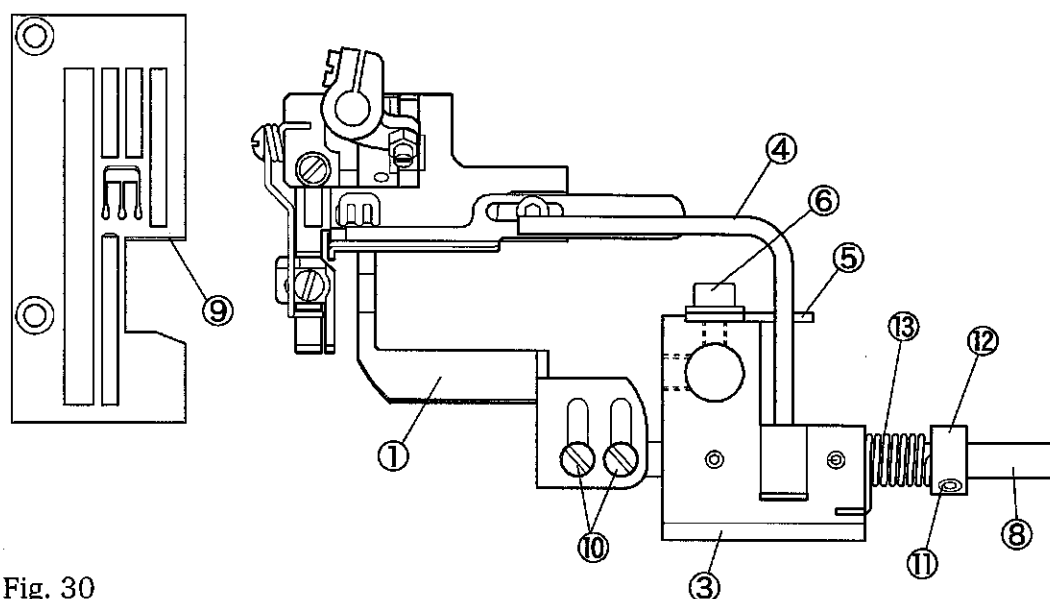

Fig. 30
1. Loosen the screw ② and adjust the height of fabric presser shaft bracket ③ to make the back of fabric presser to be parallel with the top surface of feeding dog and contact to it slightly when the feed dog is at its top dead point.
2. At the highest point of feed dog movement, load the elastic tape to be sewn under the presser foot and make the clearance of 0.5mm between the top surface of right side of presser foot and the fabric presser guide bar ④.
For the adjustment, loosen the screw ⑥ on the guide bar stopper ⑤. (Fig. 30)
3. Unload the elastic tape to be sewn and make the clearance of 1.0mm between the back of fabric presser ① and the top surface of stitch plate.